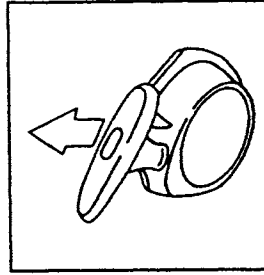

Figure 11
4. Pull the recoil start briskly. See Figure 11.